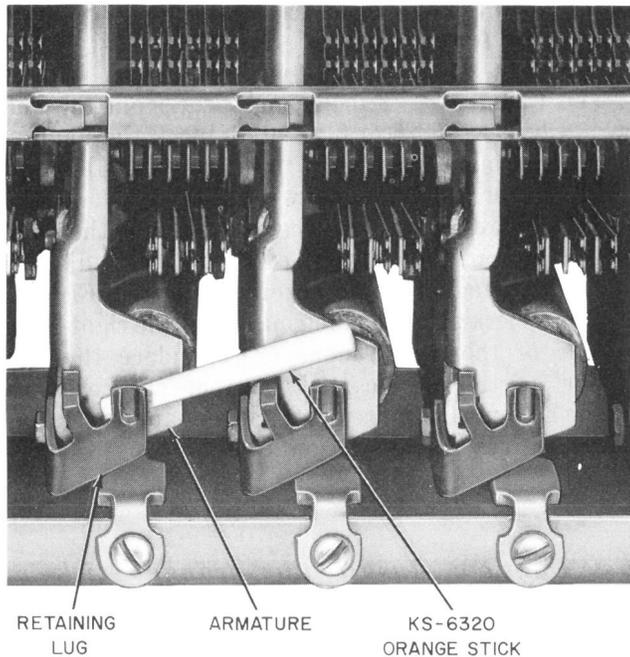

Fig 32—Blocking 324-, 325-, 328-, and 338-Type Switch Holding Magnets - Operated
(2) To block the holding armature operated, insert either the 1-1/2 inch length of orange stick (see Fig. 32) or the 768A blocking tool between the armature and the armature backstop. If the orange stick is used, insert the flat part of the orange stick between the armature and the backstop with the orange stick at an angle of approximately 45 degrees to the right.
- (2) To block the holding armature operated, insert the 768A blocking tool between the armature and the backstop, similar to the method used in Fig. 32.